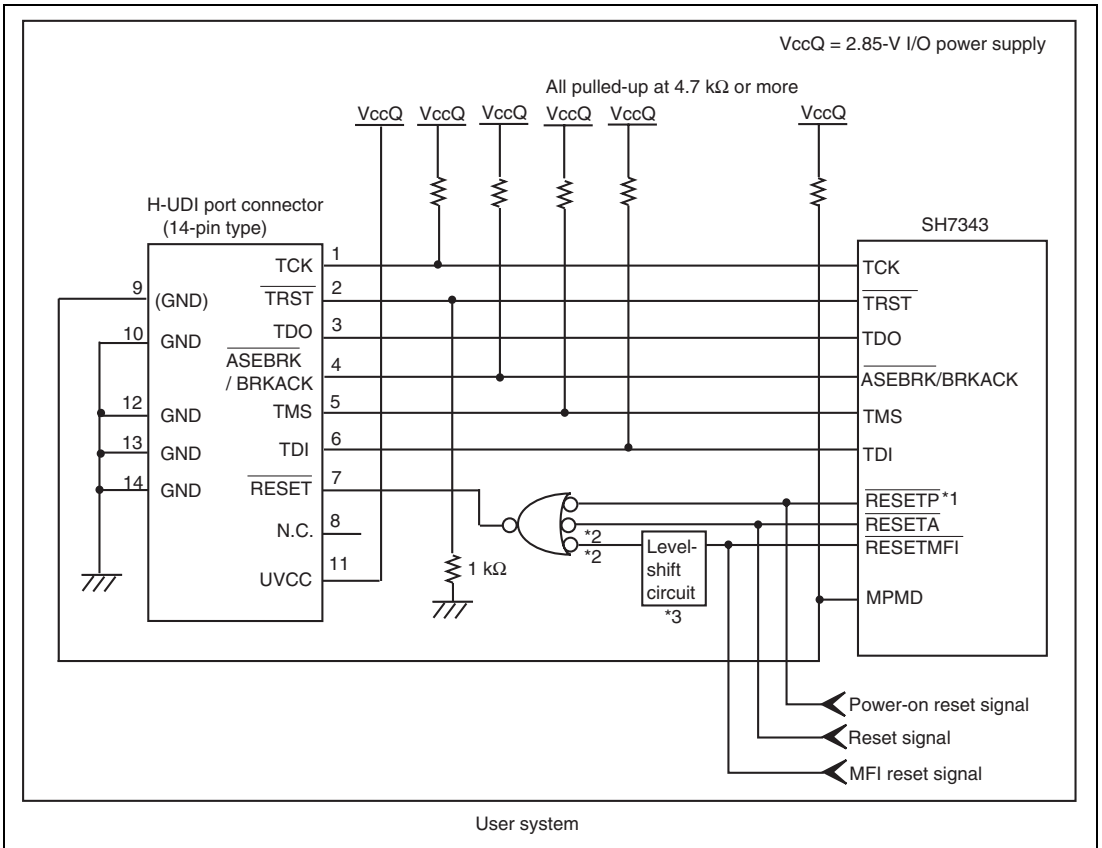

Figure 1.4 Recommended Circuit for Connection between the H-UDI Port Connector and MPU when the Emulator is in Use (14-Pin Type)
5. Connect /RESETP, /RESETA, and /RESETMFI to the user system if required, as shown in figure 1.4.
Figure 1.4 shows a recommended circuit for connection between the H-UDI and AUD port connectors (14 pins) and the MPU when the emulator is in use.
7. The resistance values shown in figure 1.4 are reference.
When the circuit is connected as shown in figure 1.4, the switches of the emulator are set as SW2 = 1 and SW3 = 1. For details, refer to section 3.8, Setting the DIP Switches, in the SuperH™ Family E10A-USB Emulator User’s Manual.
3. When VccQ_MFI is used at 1.8 V, the level-shift circuit in figure 1.4 is required to adjust the signal levels.